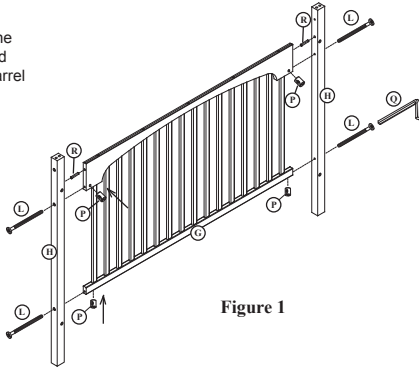

Figure 1
Attach the back rail legs(H) to the Back Rail Bottom (G) using wood dowels(R) & 3 1/4" Bolts(L) & Barrel Nuts(P). See Figure 1.